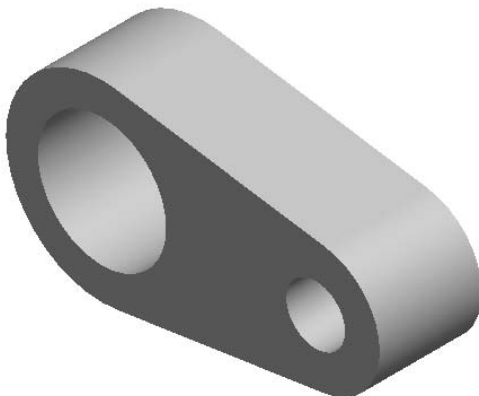
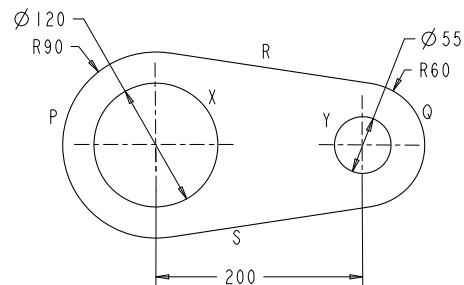

Figure 2-32 Model for Tutorial 3
Figure 2-33 Sketch of the model
In this tutorial, you will draw the sketch of the model shown in Figure 2-32. The sketch of the model is shown in Figure 2-33. For your reference, all entities in the sketch are labeled alphabetically. Also, you will print the sketch. **(Expected time: 30 min)**
2. Select arc P and create circle X concentric to the arc. Similarly, select arc Q to create a concentric circle Y (refer to Figure 2-33).